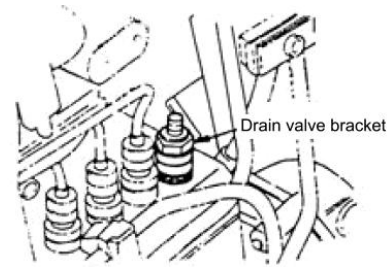

Fig.1.17
(3) Loosen the 1st cylinder injection pipe, dismantle the spring on drain valve bracket and drain valve, then install the drain valve bracket on injection pump. See Fig1.17.